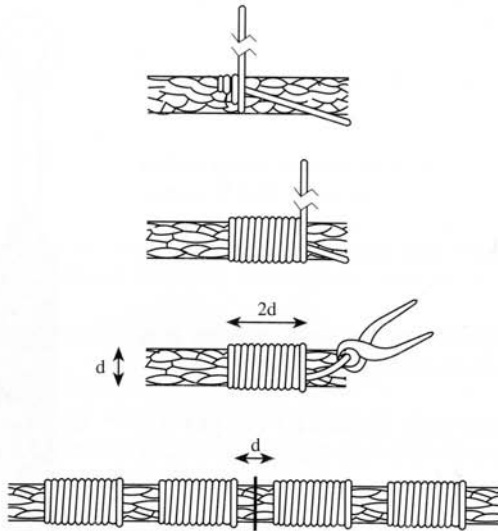

Fig. 10
- 3.12 - Take particular care and note the manufacturer's instructions when the rope is required to be cut. Apply secure servings on both sides of the cut mark. (See fig. 10 for typical method of applying a serving to a rotation resistant rope.)
One serving either side of the cut is normally sufficient for preformed ropes. For non-preformed, rotation resistant, low rotation, multi-strand and single layer ropes with a parallel lay core (i.e. DSC) ropes a minimum of two servings each side of the cut will be necessary. (See fig. 10.)
Handle the rope in accordance with the instructions given in section 3. Serve the rope, using the buried wire technique, see fig. 10 and apply a rope clamp or grip as close to the cut mark as practically possible. Do not use solder to secure the servings.